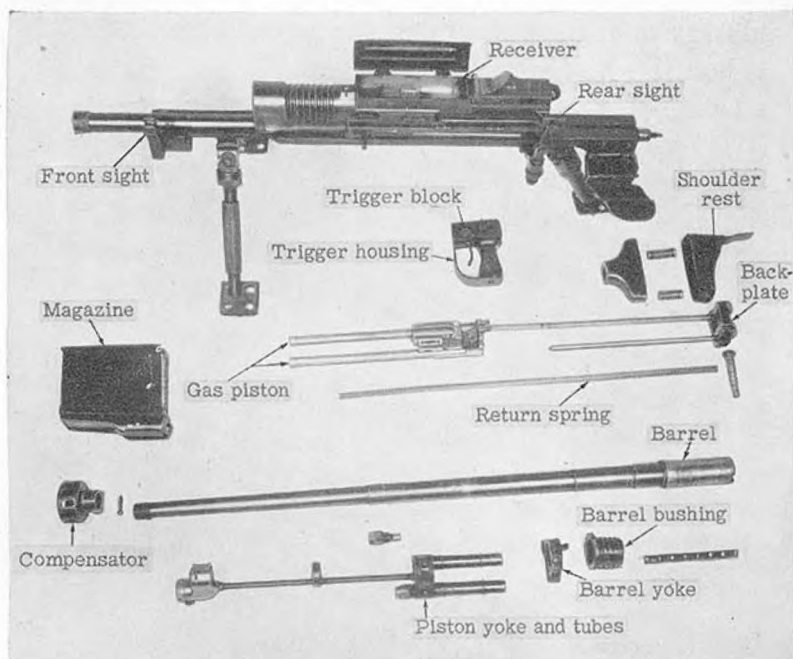

Figure 109.—Model 97 (1937) 20-mm antitank rifle disassembled.
(2) *Stripping*.—(a) *Barrel*.—Pull the retracting handle to the rear. Put the gun on "safe." Release the barrel-bushing lock. Turn the barrel bushing approximately one-sixth of a turn to the right. Then pull the barrel straight out to the front. (For disassembly, see fig. 109.)